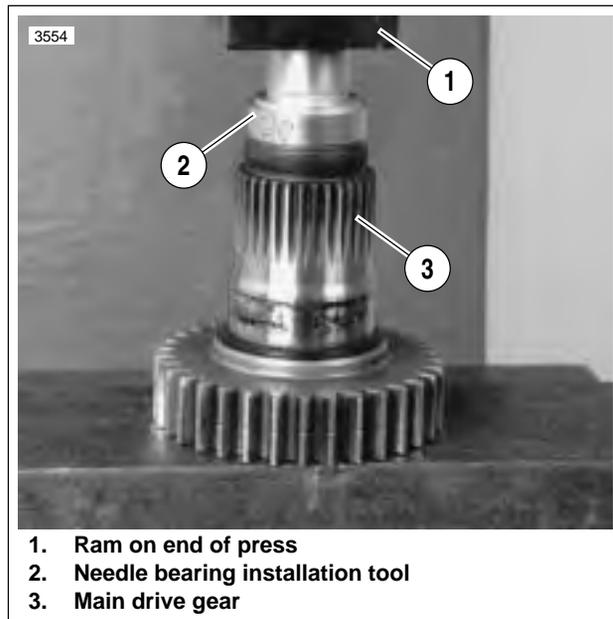

Figure 6-72. Needle Bearing Installation Tool
1. See Figure 6-72. Use INNER/OUTER MAIN DRIVE GEAR NEEDLE BEARING INSTALLATION TOOL (Part No. HD-37842-A) for assembly. Select which end of tool to use.